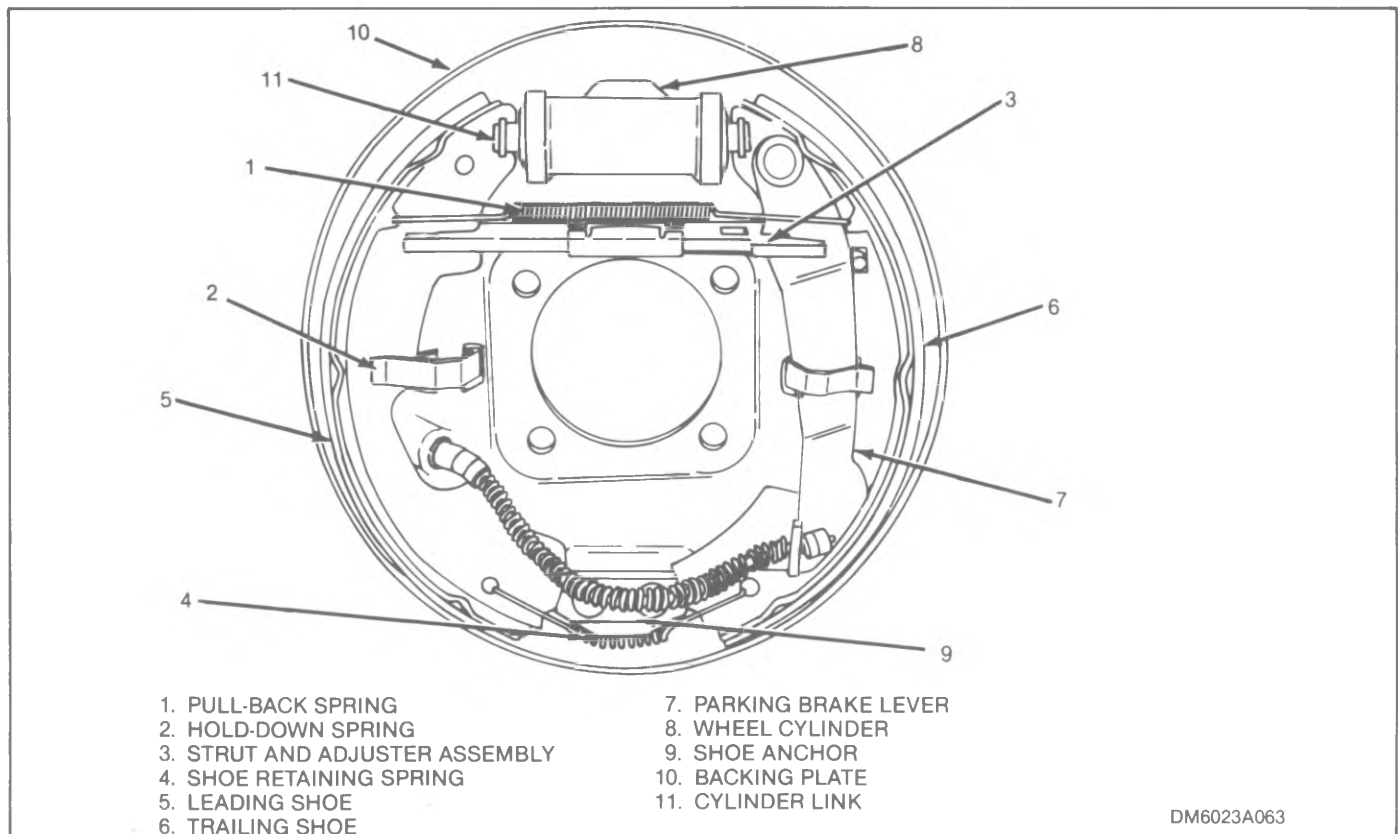
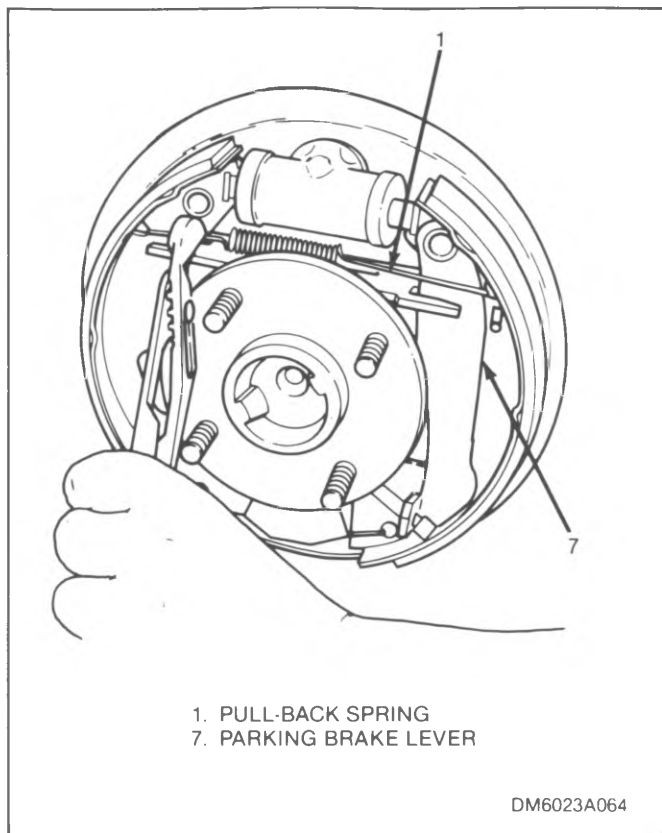

Figure 4-19. 1975 and Prior Vega, Monza, Astre, Sunbird, Skyhawk and Starfire Leading-Trailing Drum Brake Parts
Figure 4-20. Removing Pull-Back Spring
4-25. 1975 AND PRIOR VEGA, MONZA, ASTRE, SUNBIRD, SKYHAWK AND STARFIRE LEADING-TRAILING BRAKE. Refer to figure 4-19 for identification of parts for leading-trailing drum brake. After removing brake drums (refer to paragraph 4-21), proceed as follows to remove and replace brake shoes and hardware:
1. Disconnect parking brake cable from parking brake lever (7). Do not allow lever to swing forward since this would "adjust" the brakes.
2. Remove pull-back spring (1) using suitable brake spring pliers as shown in figure 4-20.
17. Attach parking brake lever (7) (see figure 4-19) to trailing shoe (6). Check that lever moves freely.
18. Install strut and adjuster assembly (3) to trailing shoe (6).
19. Connect leading shoe (5) and trailing shoe (6) together with retaining spring (4).
a. Retaining spring (4) goes under shoe anchor (9).
b. End of rod assembly (14) engages hole in web of trailing shoe (6).
c. Strut (13) engages parking brake lever (7) and leading shoe (5).
d. Webs of both shoes (5 and 6) are under hold-down springs (2).
e. Both shoes (5 and 6) engage links in wheel cylinder (8).
21. Install pull-back spring (1) using suitable brake spring pliers (see figure 4-20). Make sure pull-back spring goes over parking brake lever (7).